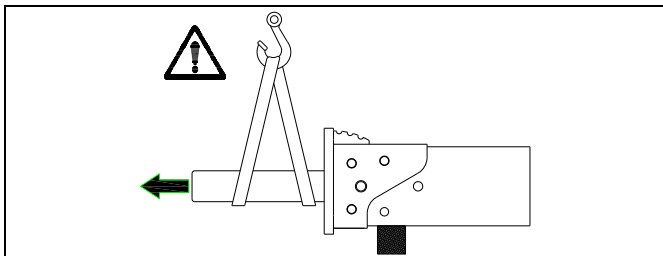

Fig. 10-5 Support Weight of Tool & Remove
8. Tool is free to be removed from Front Head [Fig. 10-5].